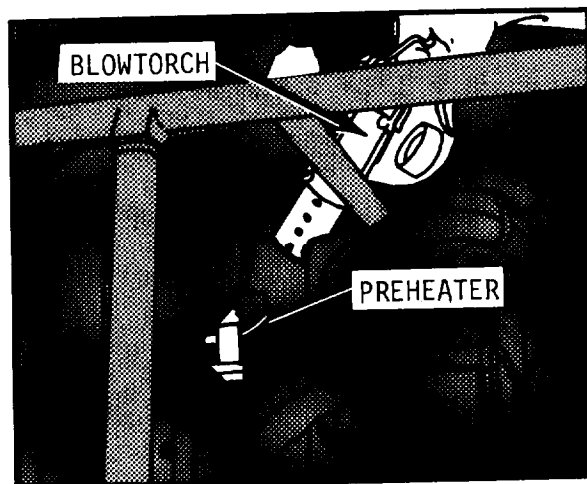

Figure 2-10. Using blowtorch to heat preheater.
(1) Play the flame of blow-torch (fig. 2-10) back and forth over air intake preheater for 1 or 2 minutes.